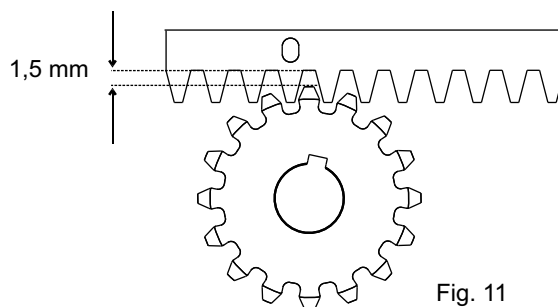

Fig. 11
5.6. To avoid that the door weights down on the pinion (Fig.11) lift up the whole rack about 1,5 mm.